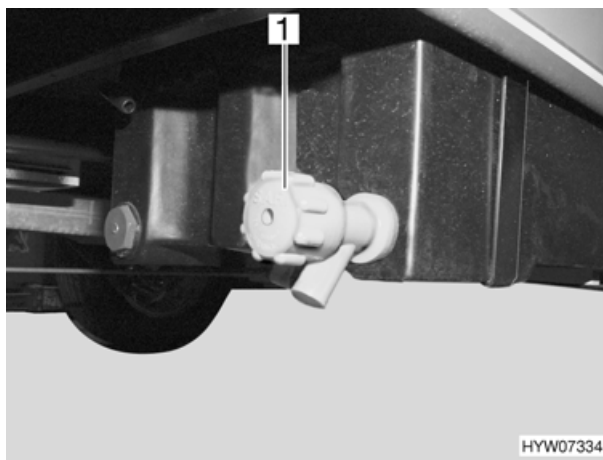

Fig. 85 Drain cock for waste water tank
- Turn the cap (Fig. 85,1) of the drain cock anticlockwise.
- Turn the cap (Fig. 85,1) in a clockwise direction.